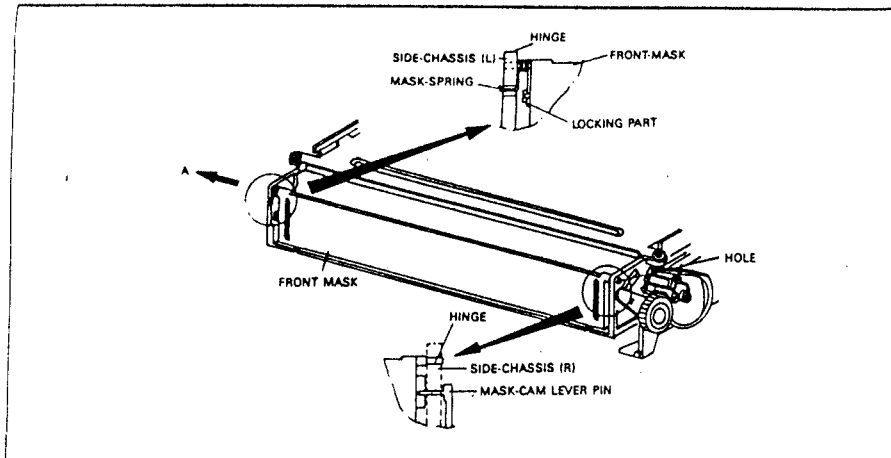

Fig. 14 Front Mask Removal
2-2-3. Housing Assembly Disassembly (Fig. 14 to 21)
1. Remove front mask. (Fig. 14)
- One end of the mask spring must be reinstalled at the locking part of the front mask and the other end must be reinstalled the hook part of the side chassis (L).
- Upon reinstallation of front mask slide part of right hand must be reinstalled in front of the mask cam lever pin. (Fig. 14)